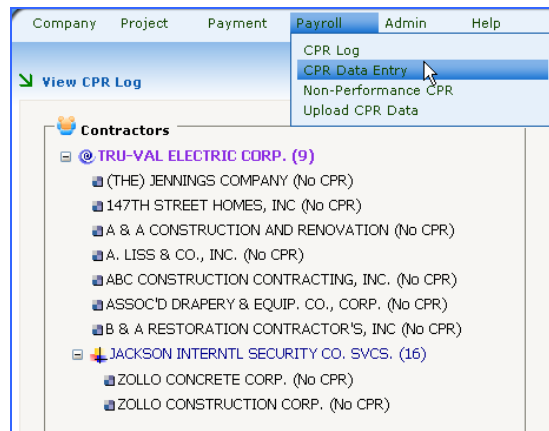

Figure 82 – Select CPR Data Entry
- From the Payroll menu, scroll down and select “CPR Data Entry” (Figure 82). This will direct your web browser to the Employee Selection Screen (Figure 83).